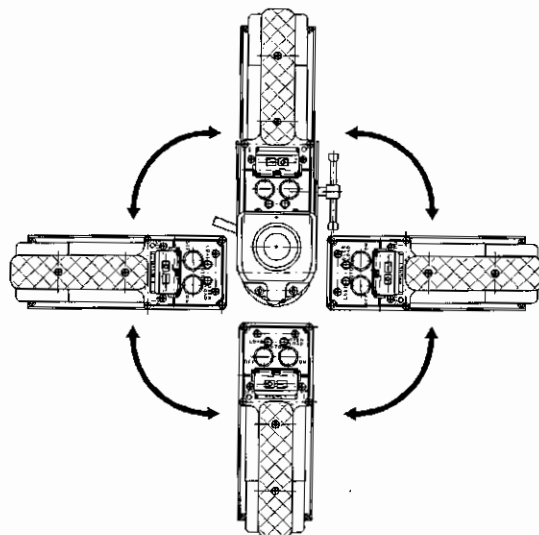

Fig. 17
- Loosen the lock screw and you can allow the tank container to rotate for position change. In perpendicular drilling on standing wall, change the position of tank container so that the air vent of the tank comes on top. (Fig. 17)